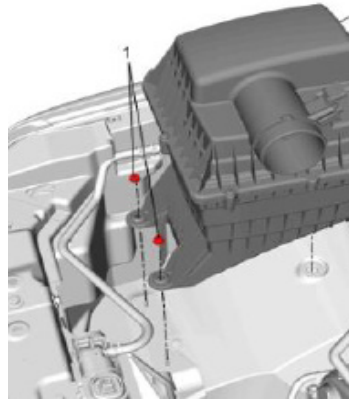

Figure 2
- Remove two nuts that retain factory airbox housing (1 in Figure 2). Remove housing from vehicle – housing is held in by grommet in the wheelhouse. Pull firmly to remove box and rotate horn out of hole in fender.